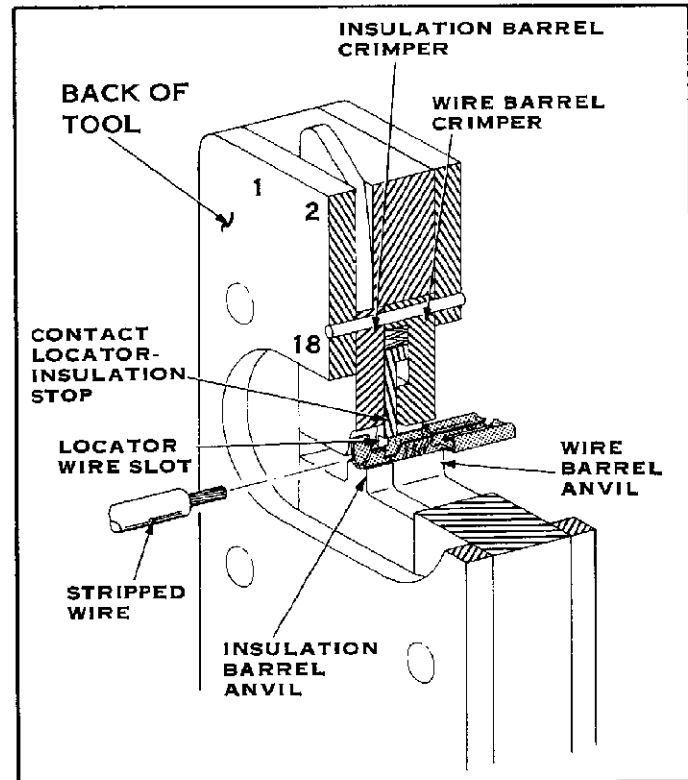

FIGURE I-4
5. Hold the contact in position and squeeze the tool handles until the Insulation Anvils start entry into the Crimpers. *Do not deform the Insulation Barrel or Wire Barrel.* See Figure I-4.
6. Insert a properly stripped wire through the Locator Wire Slot and into the Contact Wire Barrel until the wire's Insulation butts against the Contact Locator-Insulation Stop. See Figure I-4.